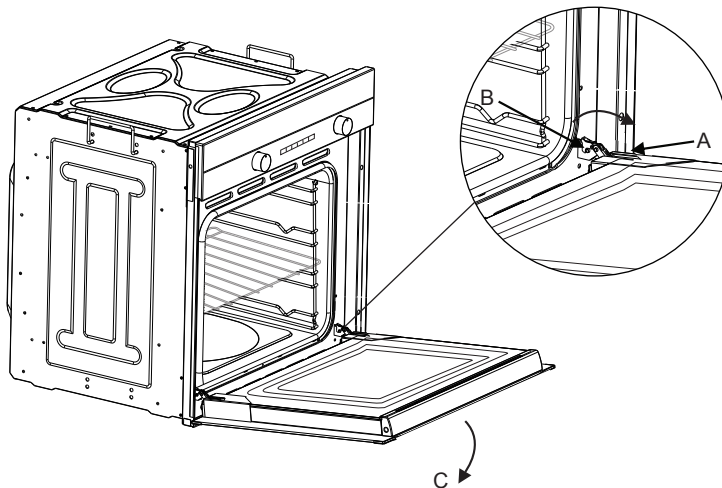

FIG. 2
**Removing the door from the oven (Fig. 2)**
- > Remember to turn the two moving links "B" used to engage the two hinges before closing the door (Fig. 2).